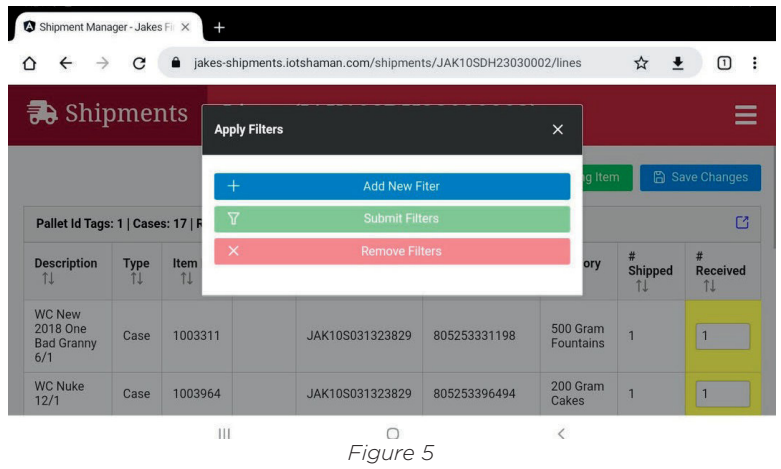

Figure 5
- b. Select ADD NEW FILTER (Figure 5)